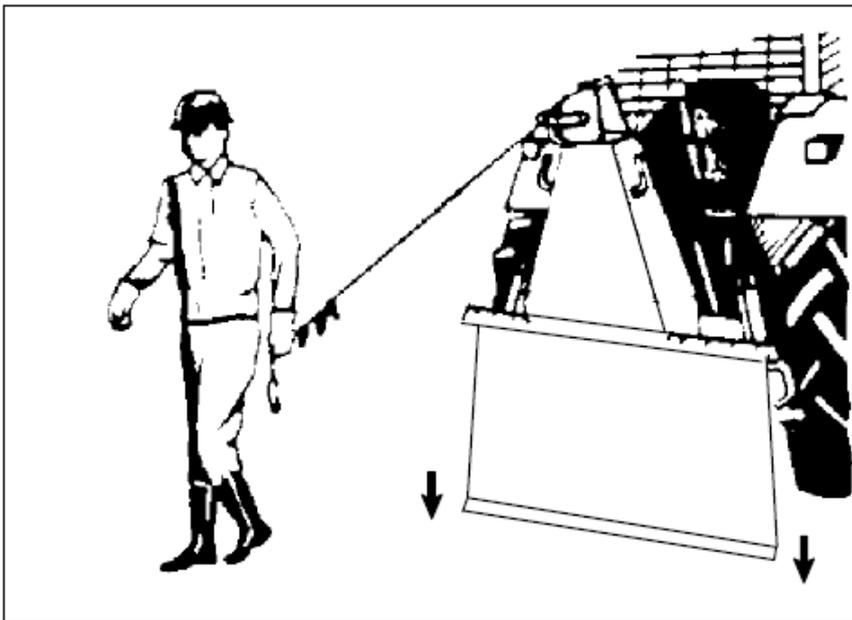

Fig. 9.
1. Park the winch and tractor on level, stable ground. Lock the brakes of the tractor before winching. Lower the 3-point hitch so that the dozer blade anchors the winch to the ground. See fig. 9.